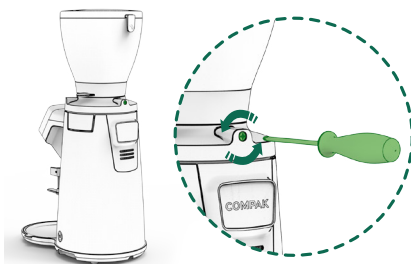

Fig. 1
12.3.1. Turn off the grinder by making sure the main power switch (13) is on the **OFF** position. Disconnect the plug from the power source. Loosen the hopper security screw (3) using a Phillips head screw driver as seen in (Fig. 1).